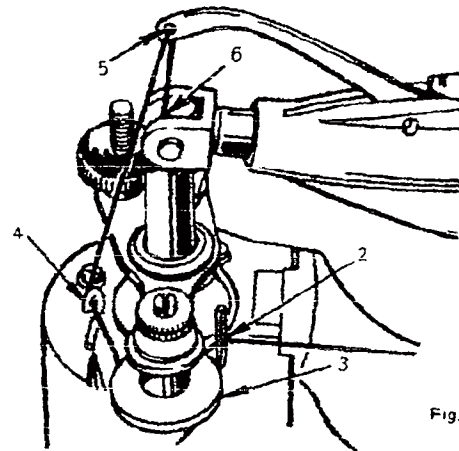

Fig. 19
3. Draw the thread around back of pin 2 which is near the tension discs on top of the arm and from back to front and right to left between the tension discs 3. See Fig. 19.